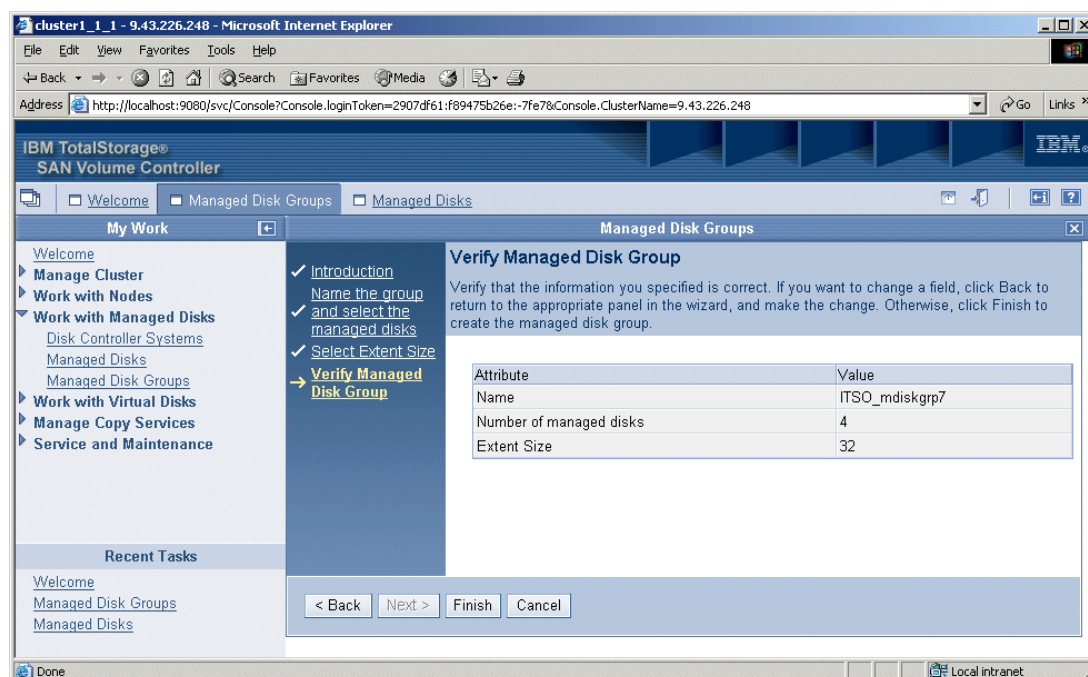

Figure 9-43 Verifying the information about the MDG
5. Verify the information that you specified in the previous panels, as shown in Figure 9-43. If it is correct, click **Finish**. If you need to correct something, click **Back**.